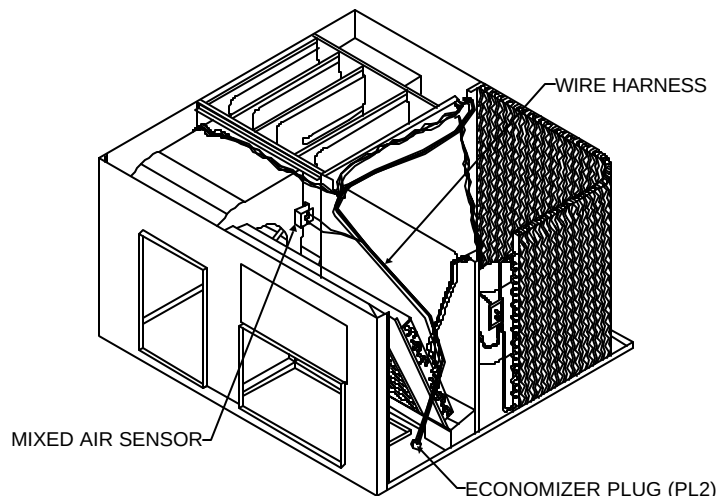

Figure 3
Route the cable through the unit as shown. (See Figure 3). The short gray wires will be used for the discharge air sensor. Then wire the harness into the low voltage of unit per diagram.
Install the discharge sensor in blower section of the unit. Drill a hole in the divider wall and mount the sensor as shown in Figure 3.
Remove air filter from Economizer. Secure Economizer to unit using (8) screws as shown in Figure 3. Replace filter then filter access panel.